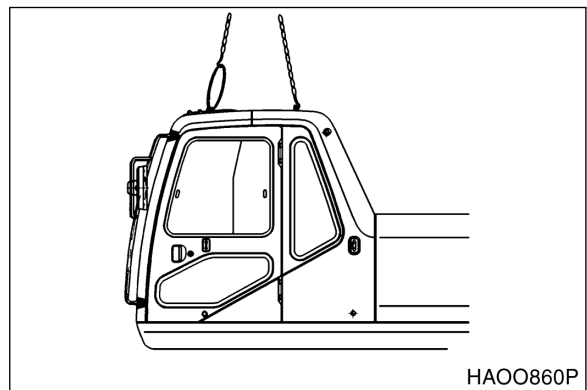

Figure 7
23. Using a suitable lifting device, attach slings to four lift points on top of cab (Figure 7).
1. Using a suitable lifting device, attach slings to four lift points on top of cab (Figure 7).